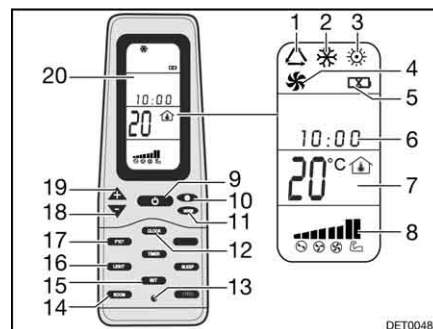

Fig. 179 Remote control
- Press the ON/OFF button (Fig. 179,9).
- Press the "Mode" button (Fig. 179,11) as often as required until the required mode (Fig. 179,1, 2, 3 or 4) is indicated on the display (Fig. 179,20).
- Use the "+" (Fig. 179,19) and "-" (Fig. 179,18) buttons to set the desired temperature.
- Use the fan speed button (Fig. 179,10) to select the desired fan level.